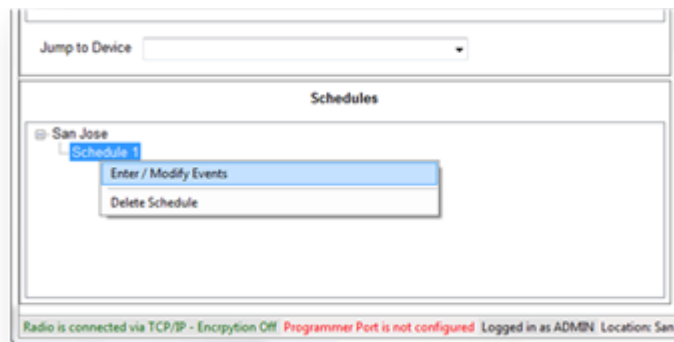

Figure 26. Enter/Modify Events
1. In the Schedules Pane, right-click on the schedule you want to modify and choose Enter/Modify Events, as shown in Figure 26.